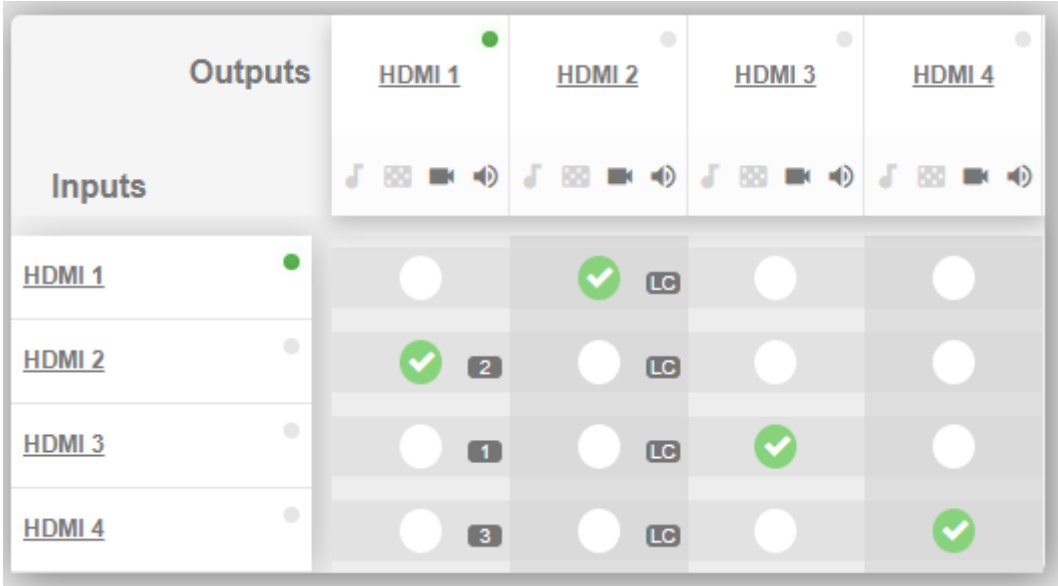

Figure 22: Auto Switching Mode – Priorities List
- The input priority-order appears. under the output (see HDMI 1 Figure 22).
- Last Connected (LC) appears under output (see HDMI 2 in Figure 22).